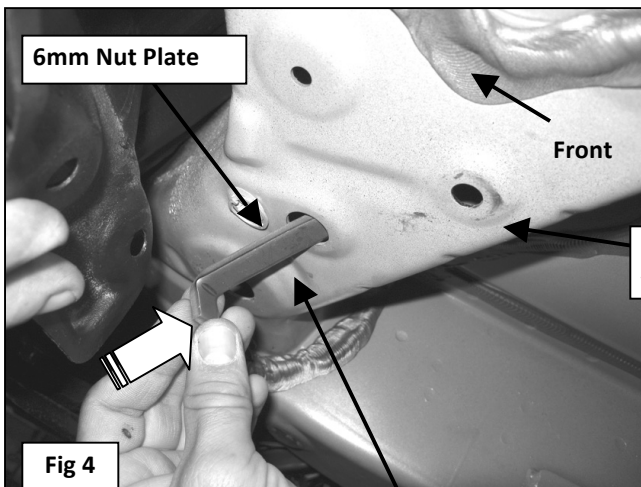

Fig 4
5. Pull back plastic cover to locate the (4) factory holes at the point where the crossmember joins the frame rail, **(Figure 4)**. Insert (1) 6mm Nut Plate into the larger inner hole and line up the nut with the larger hole toward the outside, **(Figure 4)**.